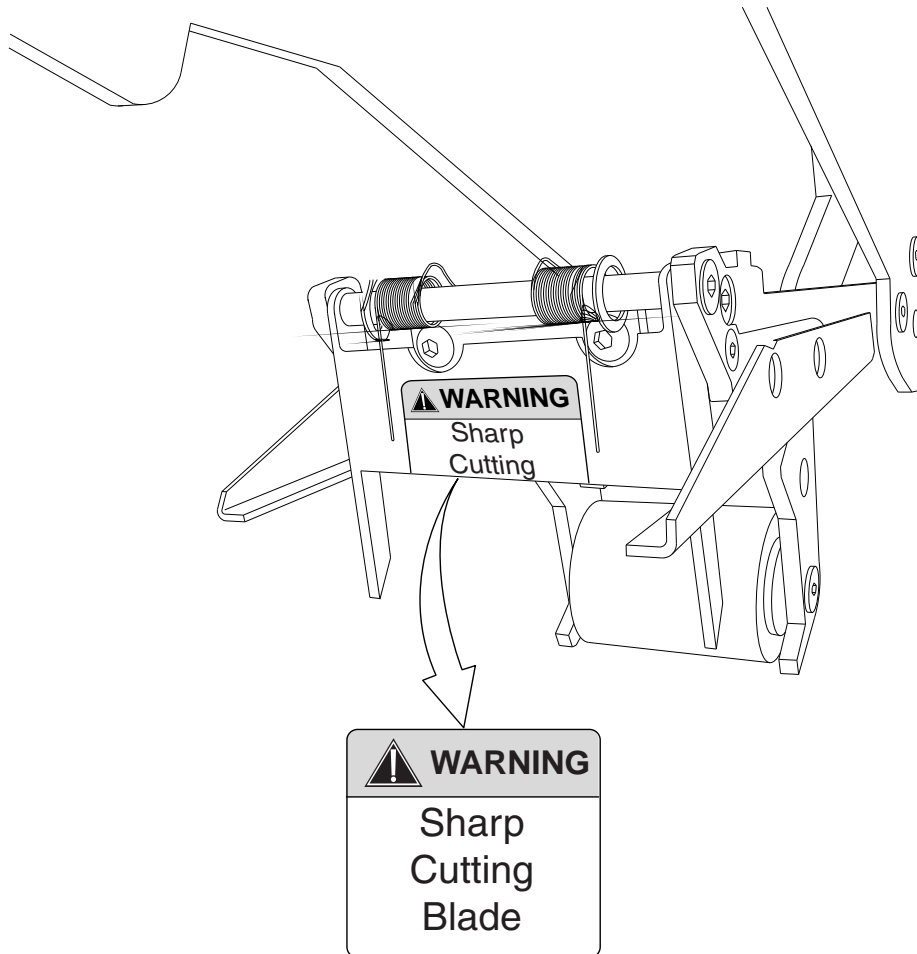

Figure 4 Safety Decal Location
- **Carefully read all safety decals on the Tape Head. If they are damaged and become illegible, replace them immediately. (See section 2.2, figure 4 for safety decal location).**
2.2 Safety Decal Location – Figure 4